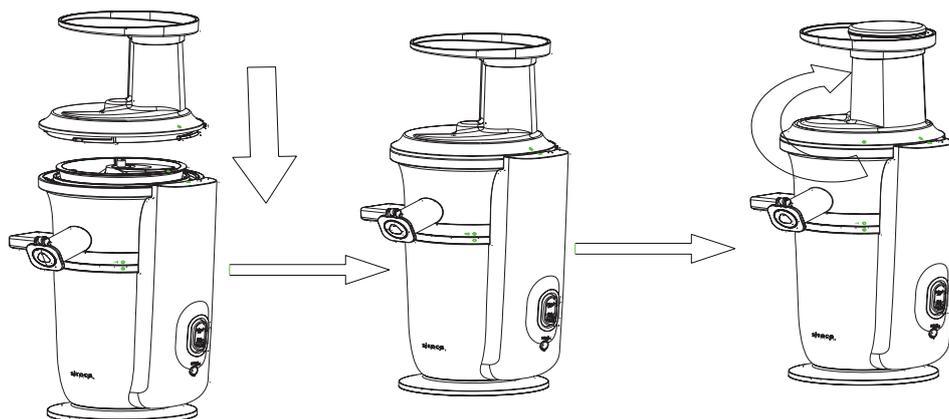

Fig.4
3. Finally, assemble the hopper on the jar correctly. Firstly, put the hopper downwards and then make the symbol “○” on the hopper align with the symbol “○” on the motor unit and then rotate the hopper clockwise until the symbol “●” on the hopper aligns with the symbol “○” on the motor unit (See Fig.4). Make sure the hopper is assembled in position properly otherwise the appliance will not operate.